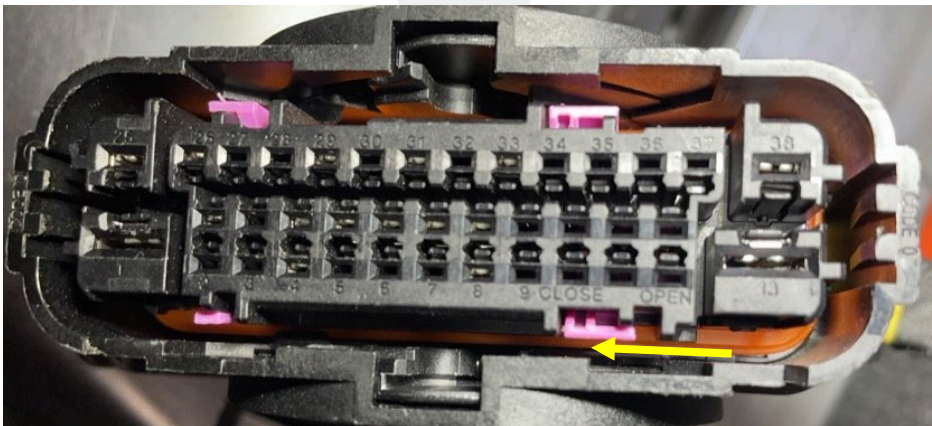

Figure 21
18. Use a pick to slide the large locking tab of connector X151 from “OPEN” to “CLOSE” (Figure 21).